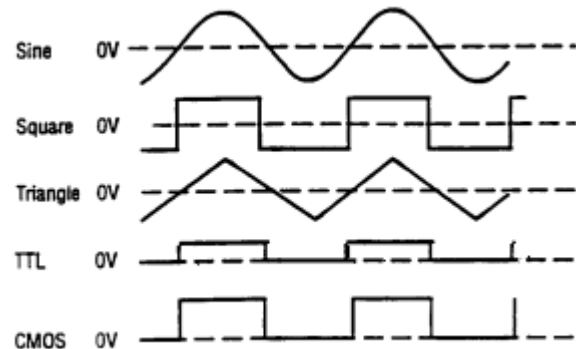

Figure 2. Output Waveform and Phase Relationship
1. Initially, verify that the **DUTY CYCLE** (2), **CMOS LEVEL** (3), **DC OFFSET** (4), **-20dB** (5), and **SWEEP EXT/INT** (22), and **AM/FM** (35) switches are in the released position. This will produce a symmetrical waveform unaffected by the sweep generator and other controls.
2. Plug the unit into an appropriate power source and turn it on by depressing the **POWER** switch (1).
3. Select the desired waveform (**SINE**, **SQUARE**, or **TRIANGLE**) by depressing one of the **FUNCTION** switches (9). Phase relationships of the waveforms are shown in Fig. 2.
4. Select the frequency of the waveform by depressing one of the **RANGE** switches (6). The output frequency is displayed, along with the appropriate measurement units. **KHz** or **Hz** (31), on the LED display.
5. Rotate the **COARSE** (28) frequency control to quickly set the output frequency to the approximate desired value. The **FINE** (26) frequency control can then be used to easily set the output to the specific desired value. The frequency selected is available at the **OUTPUT** jack (13). In addition, a digital signal, either TTL or CMOS is available at the **TTL/CMOS** jack (15) (refer to the "TTL/CMOS OUTPUT" section of this manual).